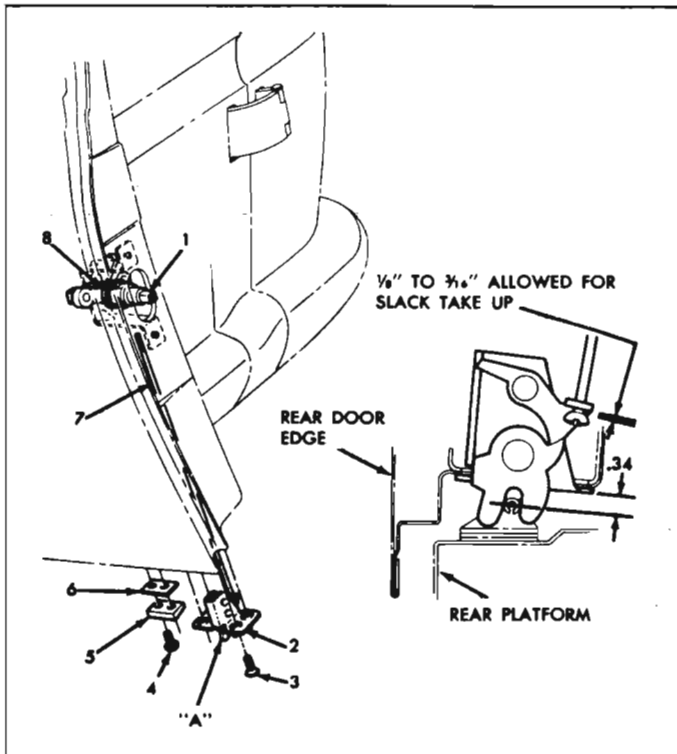

Fig. 10-81a—Rear Door Lock Lever and Shaft Assembly
5. Remove lower lock assembly retaining screws ("A", fig. 10-81a) and remove lock assembly.
4. Insert upper and lower lock control rods through upper and lower lock assemblies and screw into lock and lever shaft assembly (fig. 10-81a).
2. Loosen set screws in trunnions of door lock lever and shaft assembly (fig. 10-81a).